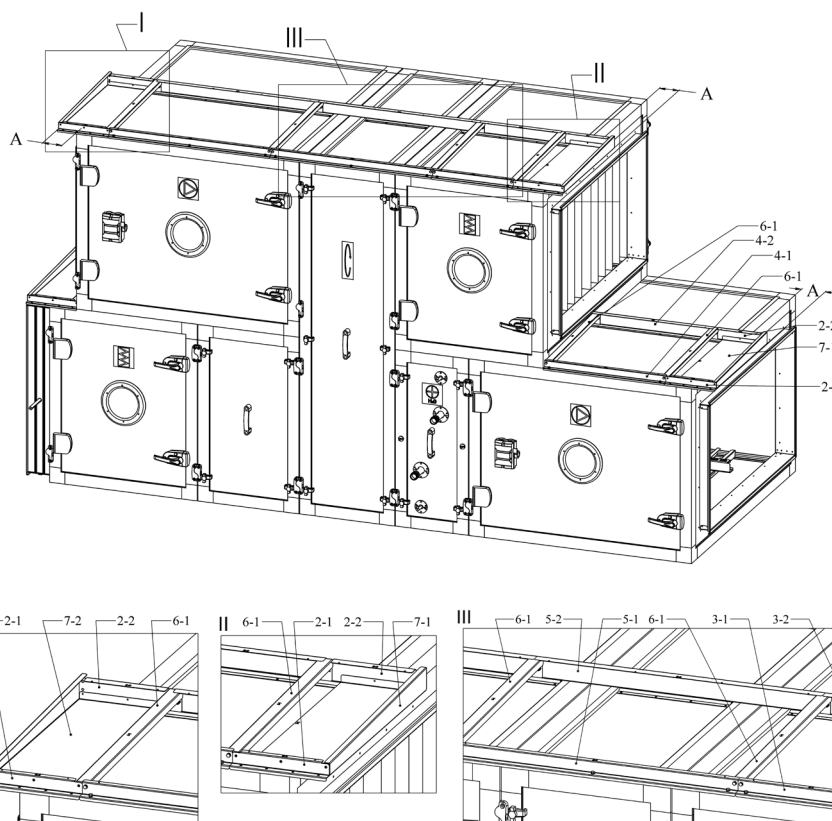

Figure 5.2
2. Connect longitudinal edge supports 2-1, 2-2 to the rear supports 7-1, 7-2 and 6-1-transverse supports using self-tapping screws supplied with the unit as shown in Figure 5.2 (I and II).
3. Connect the longitudinal center supports 1-1, 1-2, 3-1, 3-2, 4-1, 4-2 or 5-1, 5-2 to each other (depending on the length of the unit) using self-tapping screws supplied with the unit and connect end-to-end edge supports 2-1, 2-2 as shown in Figure 5.2. (III).
4. The combined entire frame of the details must be centered according to the length of the unit, the distance A must be the same on both sides as shown in Figure 5.2. A distance can be between 50 – 150 mm.